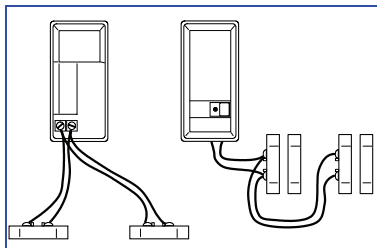

Figure 5.
STEP 3: Attach wires from the sensor switch to the transmitter screw terminals. Wire normally closed switches in *series*, and normally open switches in *parallel* (see Figures 5 & 6).